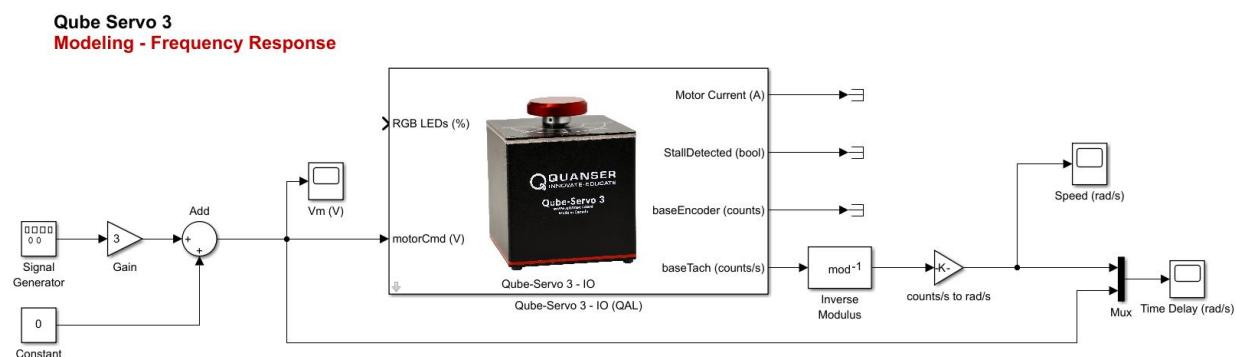

Figure 1: Model applying a voltage and measuring speed to obtain the frequency response of the Qube-Servo 3
Using the gains found to convert tachometer counts/s into rads/s from the instrumentation labs, use the qs3_frequency_response.slx file to design a model that applies a sine wave and/or a constant voltage to the motor and measure the corresponding motor speed of the Qube-Servo 3 as shown in Figure 1. The second input of the **Mux**, as well as the **Time Delay Scope** will not be used until the third section of the lab.
1. Use your modified `qs3_frequency_response.slx` to match figure 1.
This section will help you verify the time constant τ through a different approach by analyzing the phase shift between input and output signals. Match your model to figure 1. The **Constant** block will stay as 0. The model should apply a sinusoidal voltage to the motor and measures the corresponding speed on the Qube - Servo 3. The input and output signal are plotted together in the **Time Delay** scope to measure the phase shift between the signals.